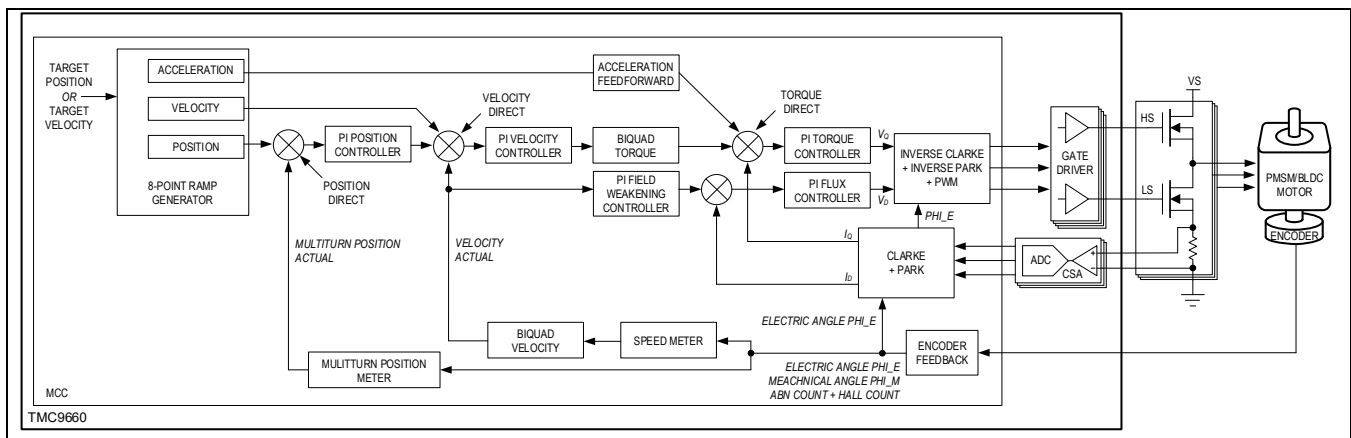

Figure 16. MCC Servo Controller
The MCC inside the TMC9660 includes a servo controller with cascaded chain of position and integral (PI) controllers for torque, velocity, and position (Figure 16) for simplified setup and tuning. In addition, a ramp generator is available to enable smooth and fast transitions when target positions or velocities are changed.